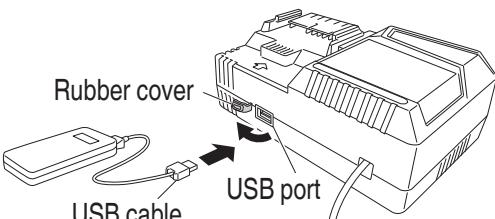

Fig. 20
(2) Connect the USB cable. (**Fig. 20**)